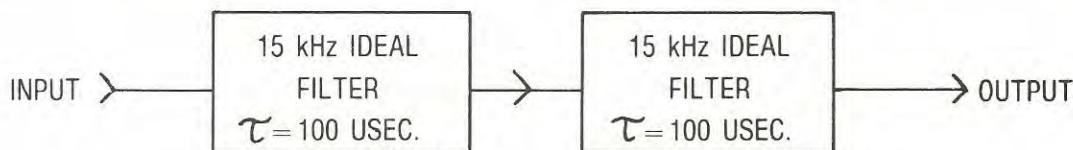

FIGURE 9
**THEORY, IDEAL CASE:** Assume that we have two identical lowpass filters. The filters have a cutoff frequency of 15 kHz with infinite attenuation above and zero attenuation below, and a uniform time delay of 100 microseconds for all frequencies. (Such a filter is of course non-causal and impossible to build.) Consider the situation of Fig. 9 where the filters are cascaded; that is, the output of one filter drives the second.